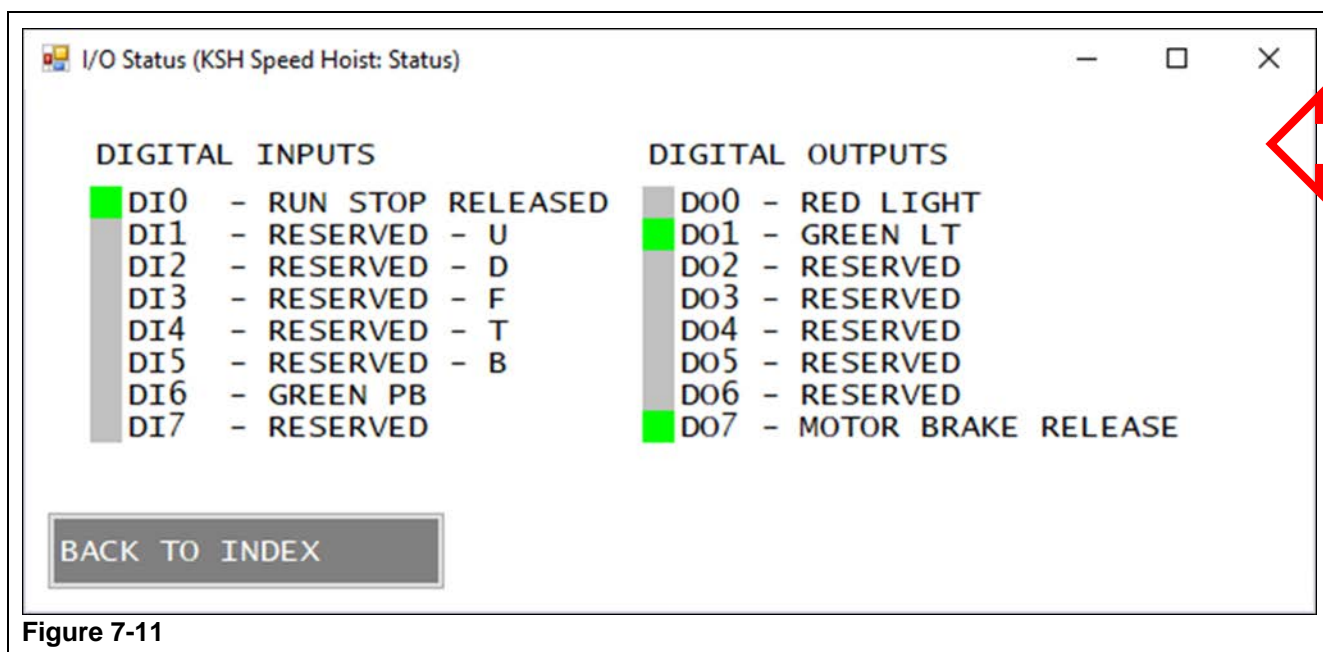

Figure 7-11
In section (I), if the indicator box is green then that I/O point is ON, but if that indicator box is gray then that I/O point is OFF. (Refer to Figure 7-11)